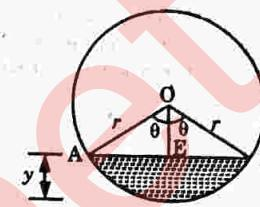

Fig. 1.31.1
1. Consider liquid is flowing through a circular channel of radius r as shown in Fig. 1.31.1. Let the depth of flow of liquid be y and the liquid surface subtend an angle 2θ with the axis of the channel.
6. Depth of flow is then given by (Refer Fig. 1.31.1)